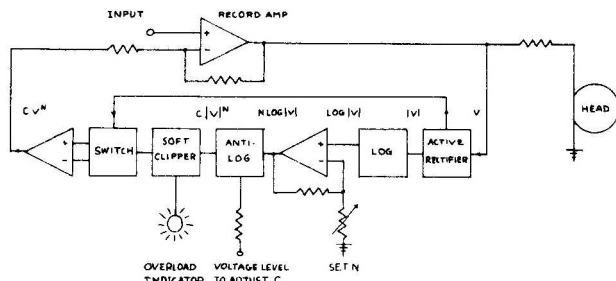

Fig. 2. Block diagram of predistorter.
Guided by the above measurements, several circuits were constructed using analog computer techniques to produce the exact inverse of Eq. (1). After a long and sometimes frustrating development, the type of circuit shown in Fig. 2 was chosen. The majority of the circuit is designed to compute a power of the signal at its input. This part of the circuit is then placed inside the feedback loop of the recording amplifier to generate the exact inverse of Eq. (1). The first step in finding the power is to find the absolute value of the signal using an active rectifier. The next step takes the logarithm of this absolute value. An amplifier then multiplies the logarithm by the value selected for N . The antilog is then taken, giving the absolute value of the input signal raised to
The soft clipper in Fig. 2 limits the action of the predistorer whenever the instantaneous level exceeds +10 dB with Scotch 206.. Above this level the distortion gradually rises to that of uncompensated tape. A red light is illuminated whenever a transient exceeds this level, and this light is a very valuable indication to the recording engineer. This limiting system was chosen after many listening tests and works well. Although the predistorer causes the higher order harmonic content of a grossly over-recorded tape to be somewhat greater than a normal tape at the same level, accidental overloads do not result in disaster.